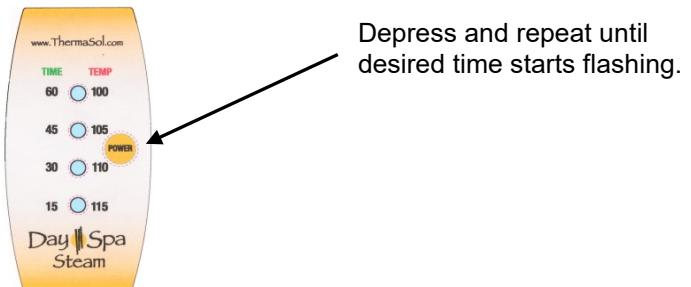

Figure 8
- 2. Changing Session Time.** While the green LED is still flashing (within 4 seconds), momentarily press the "Control Button". Repeat until the green LED associated with your desired time starts flashing. Once the desired time is flashing, wait 4 seconds and that time will be accepted by the control. (**Figure 8**)